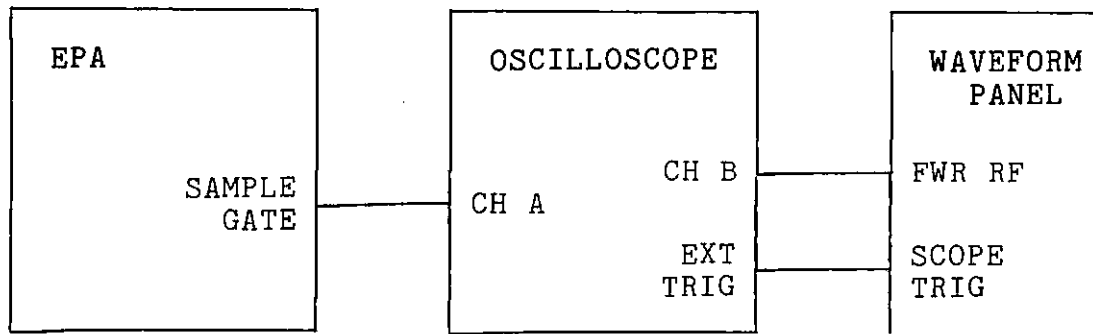

Figure 3.8. Equipment Setup for Half-Cycle Amplitude Monitoring
3.3.2.3 Half-cycle amplitude monitoring. Refer to Figure 3.8 and the following steps to monitor the half-cycle amplitude: